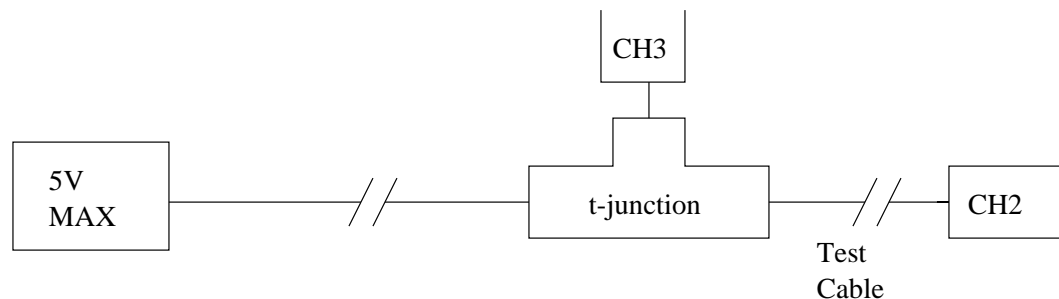

Figure 5: Connection of the 5V pulser output to scope channel 3 (1MΩ), to the test cable and finally to channel 2 (50Ω).
3. Connect a known good coaxial cable from the t-junction of the previous step to another channel (for example channel 2). Ensure that this channel has a 50Ω impedance. See figure 5.